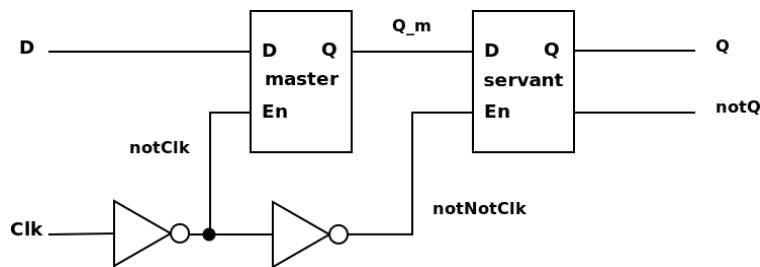

Figure 6: Master-Servant D flip-flop
To construct a D flip-flop, we can actually combine two D-latches with two inverters in what is often referred to as a *master-servant* configuration illustrated in Figure 6. Remember that a rising-edge sensitive D flip-flop essentially samples the input, D , at the rising-edge of Clk . Let us convince ourselves that the circuit in Figure 6 does exactly that. When Clk is low, the master latch is enabled while the servant latch is disabled. Thus, the output of the master latch, Q_m , equals the input, D , whereas the output of the servant latch, Q_s , is equal to whatever value was last store in that latch. For this example, let us assume $D = '1'$, and the value latched into the servant latch is 'X'. At some point, the Clk will transition from low to high. This event is referred to as a rising-edge. When this happens, the master latch will now become disabled, which means it will hold the value of D immediately before the transition (i.e. '1' will be latched into the master latch). Conversely, the servant latch will become enabled and therefore transparent (i.e. $Q_s = Q_m = '1'$). When the clock returns to a low state, the servant latch will simply hold the previous value of Q_m which is '1'. In the experiments below, you will have the opportunity to simulate this behavior to help you further understand how the master-servant D flip-flop works.
3. With the D-latch module you just created, construct a D flip-flop as shown in Figure 6.